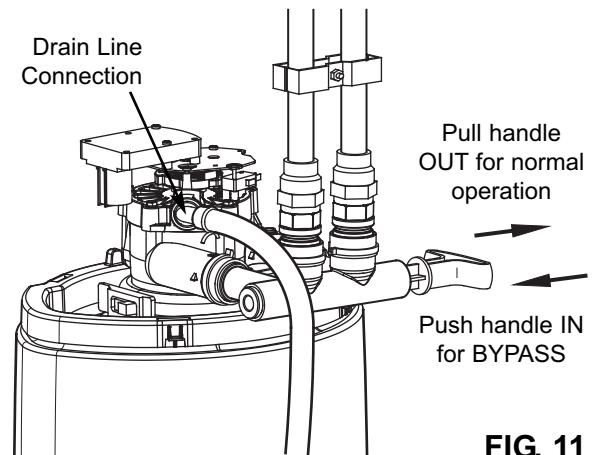

FIG. 11
1. Measure, cut to needed length and connect the 3/8" drain line (provided) to the Central Water Filtration System valve drain fitting (See Figure 11). Use a hose clamp to hold the hose in place.
1. Make sure the single bypass valve (or 3 valve bypass, if installed) is in the bypass position, with the handle pushed in (See Figure 11).
4. Slowly move the bypass valve(s) to the normal operation position, pausing several times to allow the unit to pressurize slowly (See Figure 11).